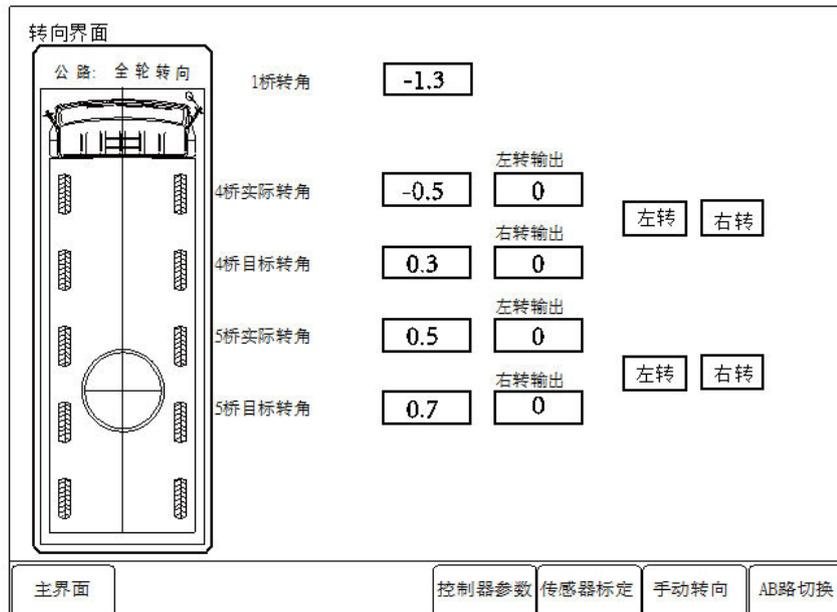

Figure 3-19 Steering
Press the function key F4 "Steer" in the main screen to switch to the following screen. See Figure 3-19.
- Press the function key "Sensor calibration" in Figure 3-19.